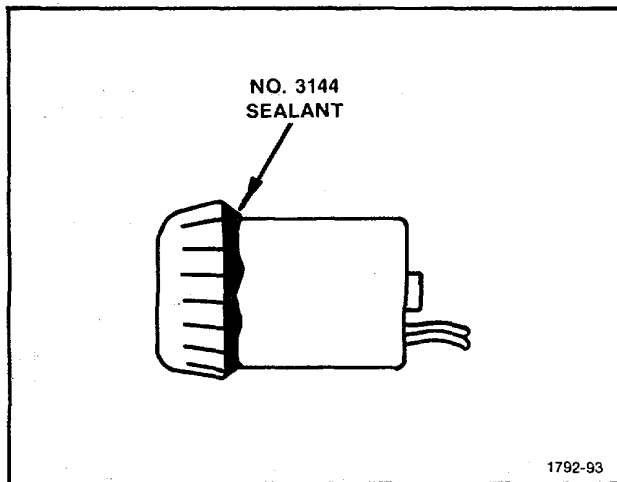

Figure 5-15. Application of sealant to Battery Meter.
16. Install Battery Meter (see Figs. 5-15 and 5-16)
1. Apply a thin bead of No. 3144 sealant to the junction of the bezel and meter canister (see Fig. 5-15).